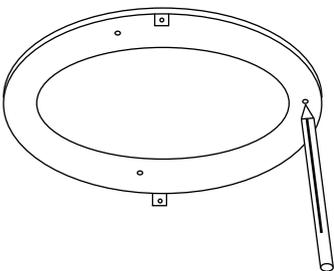

Fig 4
2. Hold the ceiling bracket up to the roof and mark out holes (Fig 4).